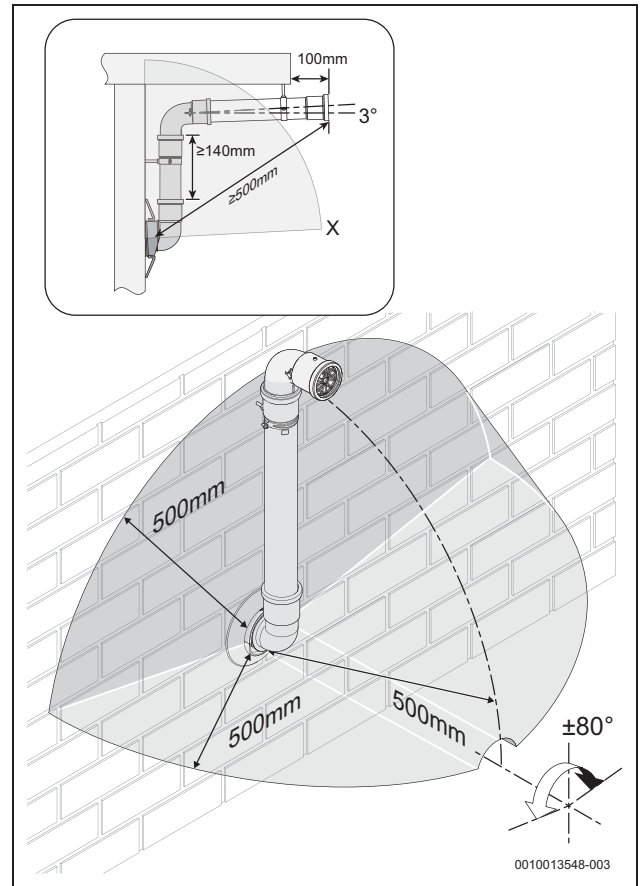

Fig. 32 Terminal exclusion zone
- ▶ Do not terminate the plume management inside the terminal exclusion zone (shaded area) shown in figure 32.